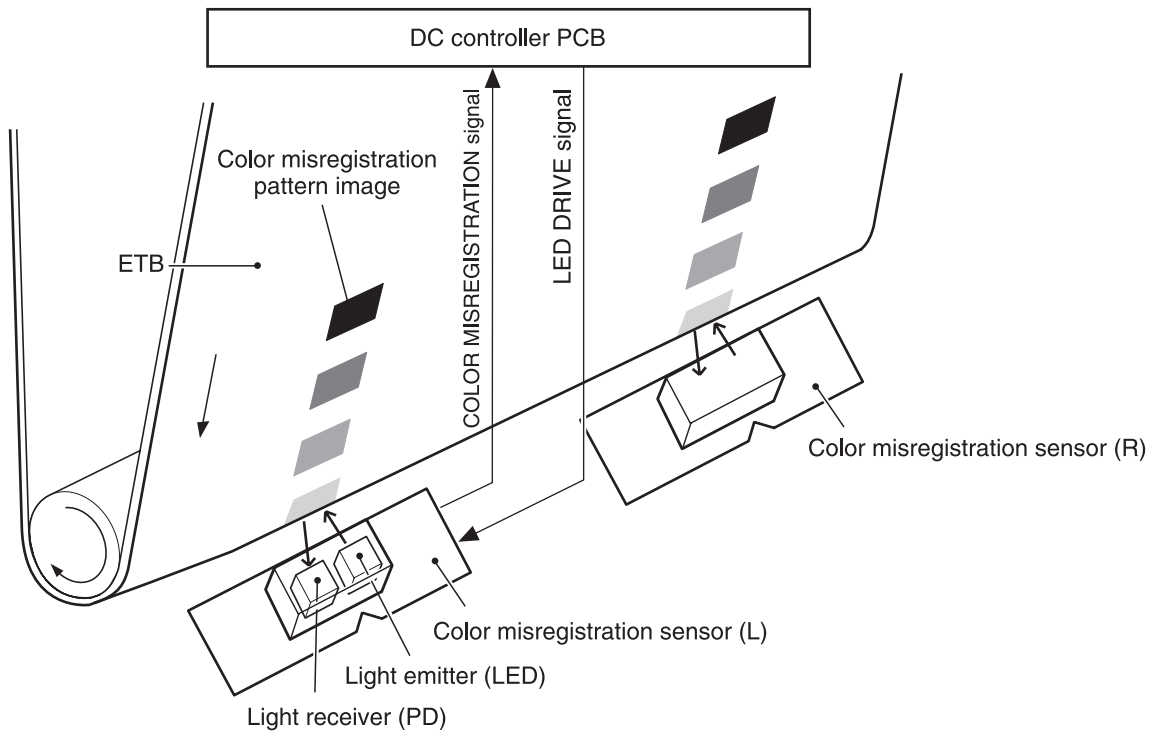

Figure 5-34 Image density detection
Each of the image stabilization controls uses the color registration unit at the top of the ETB to measure image density. The image density detection is performed by the DC controller, which controls the color misregistration unit during the DHALF control. The color misregistration unit is placed under the ETB and consists of two detection sensors, each having one light emitter (LED) and one light receiver (PD). Figure 5-34 Image density detection on page 188 illustrates this process.